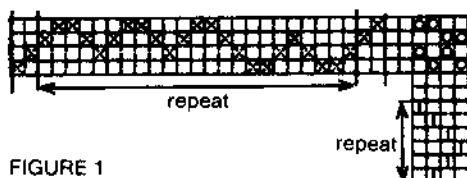

FIGURE 1
**Weaving instructions:** I wove 3 yds. of twill according to the draft of Fig. 1. Then I cut it off. This was enough for the front, back and sleeves. The cuffs could be woven in pattern or plain weave. I rethreaded the warp for plain weave. I threaded a warp just wide enough for the collar. Then I used a warp just wide enough to weave the two front bands (two strips requiring two shuttles). The button holes were woven as slits in the front band, 4" to 5" apart. The ends of the collar and facings were needle woven back in.